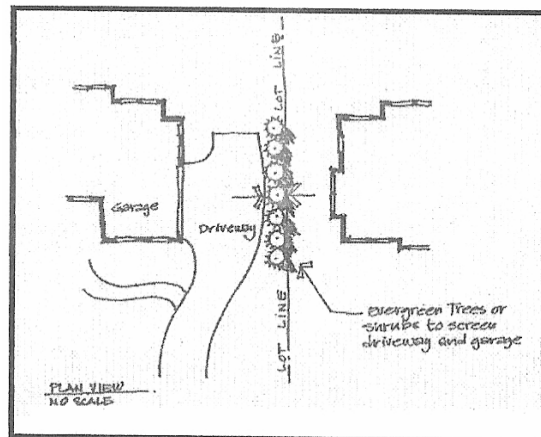

Figure 11.2.1 Driveway/Garage Screen Planting
As set forth in Section 2.3 in the Architectural and Design Guidelines, driveways shall not be located closer than two (2) feet to the side Lot boundary line. Where a driveway exists on a Lot that is adjacent to a neighboring Lot which does not have a driveway on the same adjacent side, the Owner of the Lot on which the driveway exists shall be responsible for landscaping the two (2) foot strip between such Owner's driveway and the side Lot boundary line with a row of seven or more evergreen shrubs or narrow, conical evergreen trees to screen the view of the driveway from the neighboring Lot. This plant material will be required in addition to the minimum initial landscape improvements planting requirements set forth in Section 9 herein. Installation of such plant materials pursuant to this Section 11.3 is not required until the construction of improvements on the adjacent Lot is completed. (See figure 11.2.1)